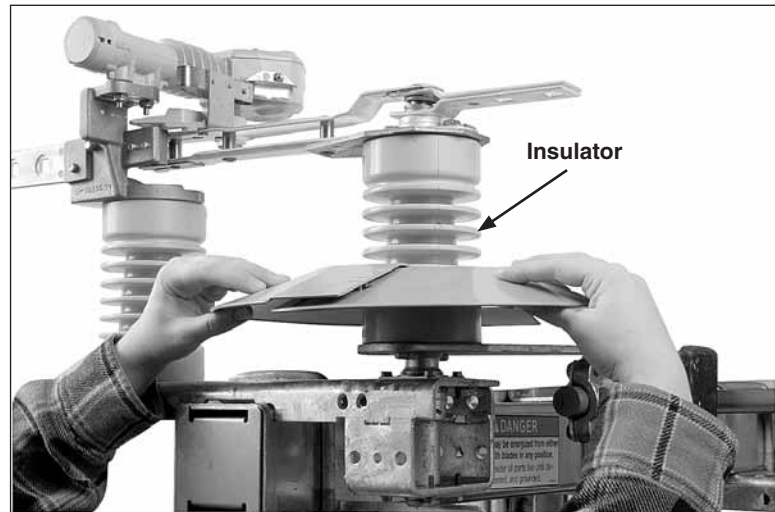
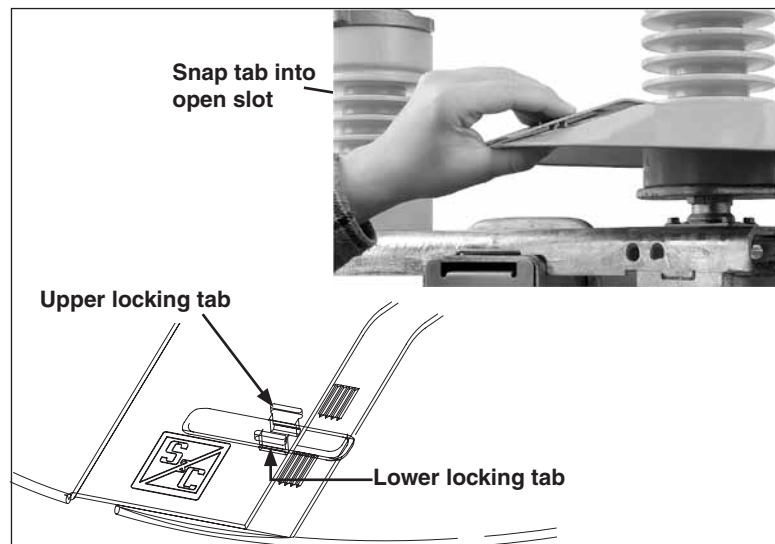
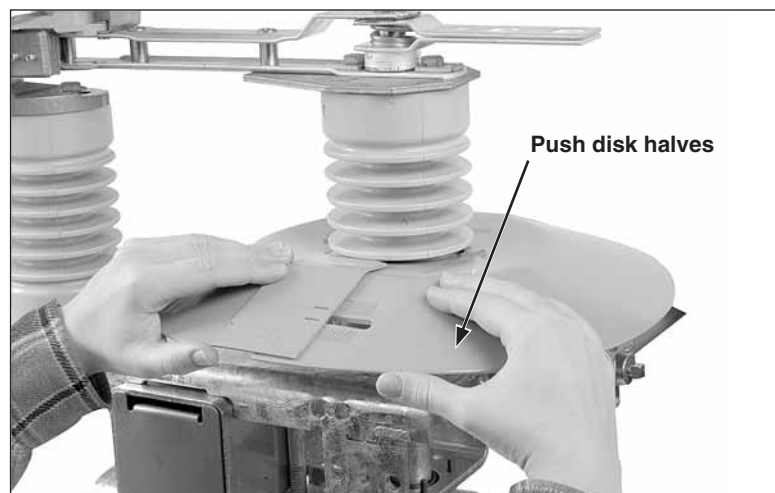

Figure 15. Fit the disk halves around the insulator.
Figure 16. Snap lower tab into open slot.
Figure 17. Push disk halves together. Snap upper tab into place. Disk halves should fit as tight against the insulator as possible.
- a. To assemble the disks, fit the disk around the insulator on the blade-end of the switch. See Figure 15. Then, insert the locking tabs of one-half of the disk into the open slot on the other half to create a secure overlapping fit. Repeat the procedure on the opposite side of the disk. When the halves are correctly assembled, the S&C logo will be on top of the disk on both sides. See Figure 16.
- c. Push the two halves of the disk together in towards the insulator so that it fits the insulator as close as possible. See Figure 17. Snap the upper locking tab firmly into place. Both tabs should protrude through the open slot as shown in Figure 16.